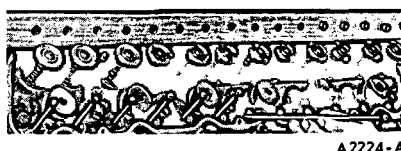

FIG. 22—Valve Push Rod Removal
11. Remove the valve rocker arm shaft assembly. Remove the valve push rods in sequence (Fig. 22).